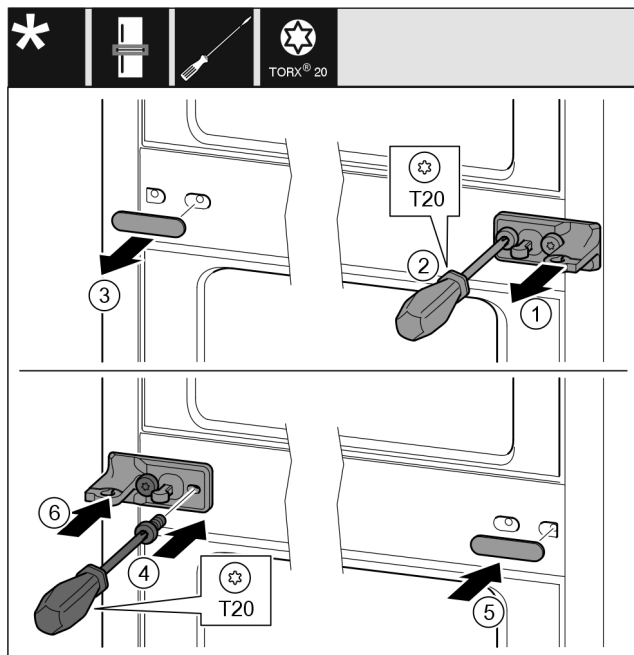

Fig. 33
- Take off the washer. Fig. 33 (1)
- Remove the screws with a T20 screwdriver. Fig. 33 (2)
- Take off the cover carefully. Fig. 33 (3)
- Screw the bearing bracket and the film rotated 180° firmly onto the other side. Fig. 33 (4)
- Attach the cover rotated 180° onto the other side. Fig. 33 (5)
- Push the washer on from the front. Fig. 33 (6)